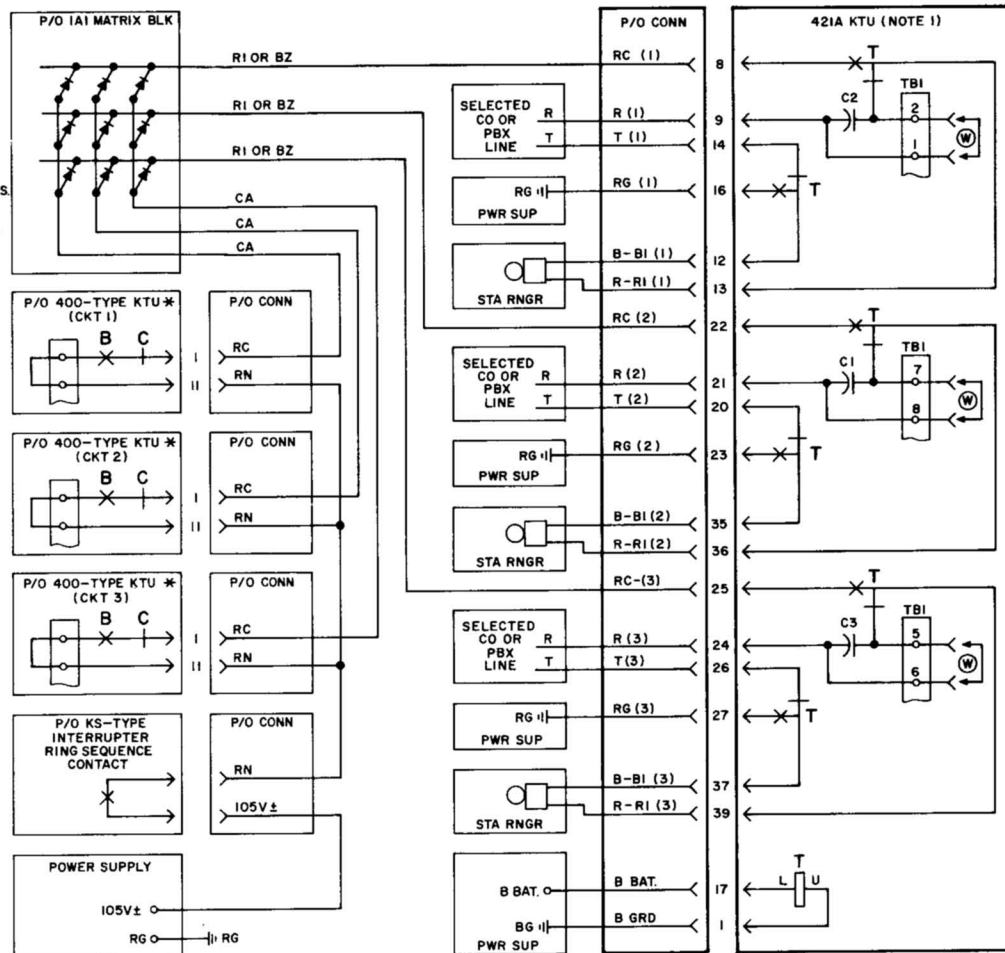
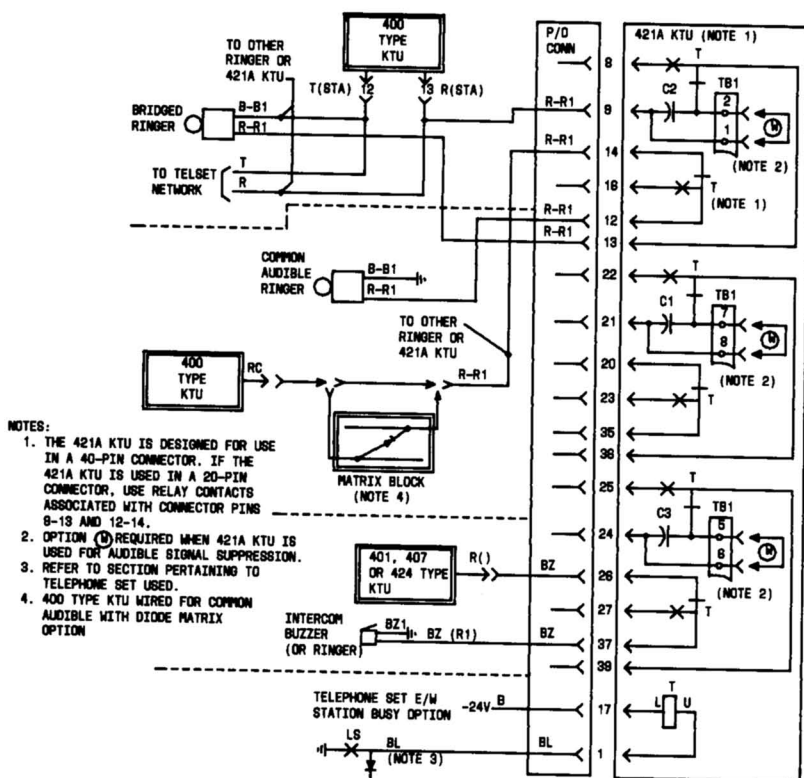

Fig. 7—Condensed Functional Schematic of 421A KTU (Wired for Power Failure Transfer)
Fig. 8—Condensed Functional Schematic of 421A KTU (Wired for Audible Signal Suppression)
2.05 The 421A KTU is a 4-inch, 40-contact unit that can be used to automatically transfer a maximum of three station ringers from a common audible connection to a line ringing connection in the event of a power failure (Fig. 7). ♦The 421A KTU can be used to suppress (cut off) audible signals on a line or lines associated with a key telephone set when that set is off-hook (Fig. 8).♦ It can also be used as a general purpose relay